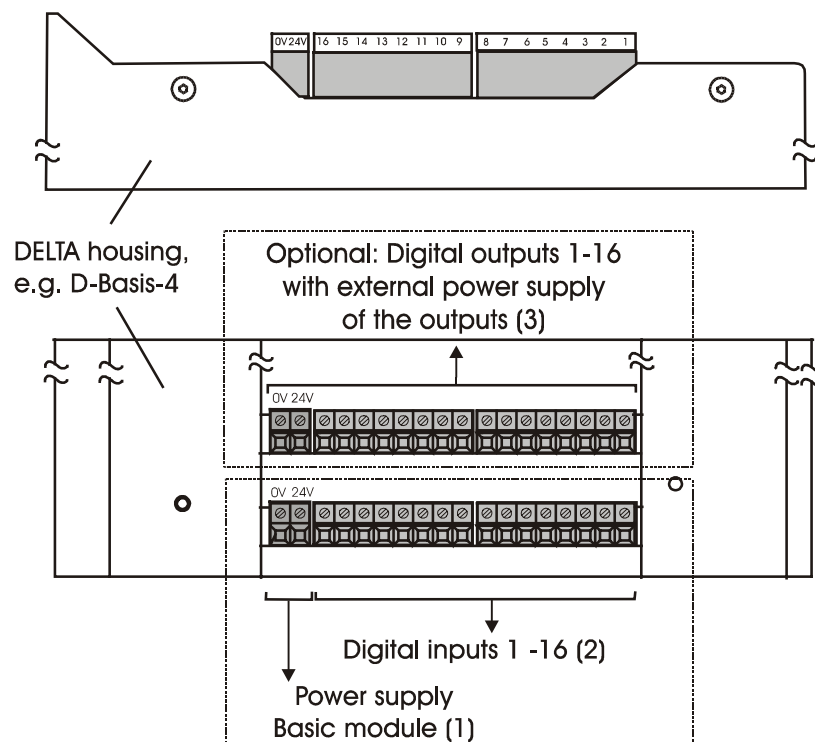

Fig. 35: Top and side view of the DELTA basic housing
- Disconnect the 2 pin terminal (1) of the power supply for the basic module (refer to Fig. 35).
- Disconnect the two 8 pin terminals (2) of the 16 digital inputs, located on the DELTA PID controller module (refer to Fig. 35)
the two 8 pin terminals (3) of the 16 digital outputs (refer to Fig. 35).